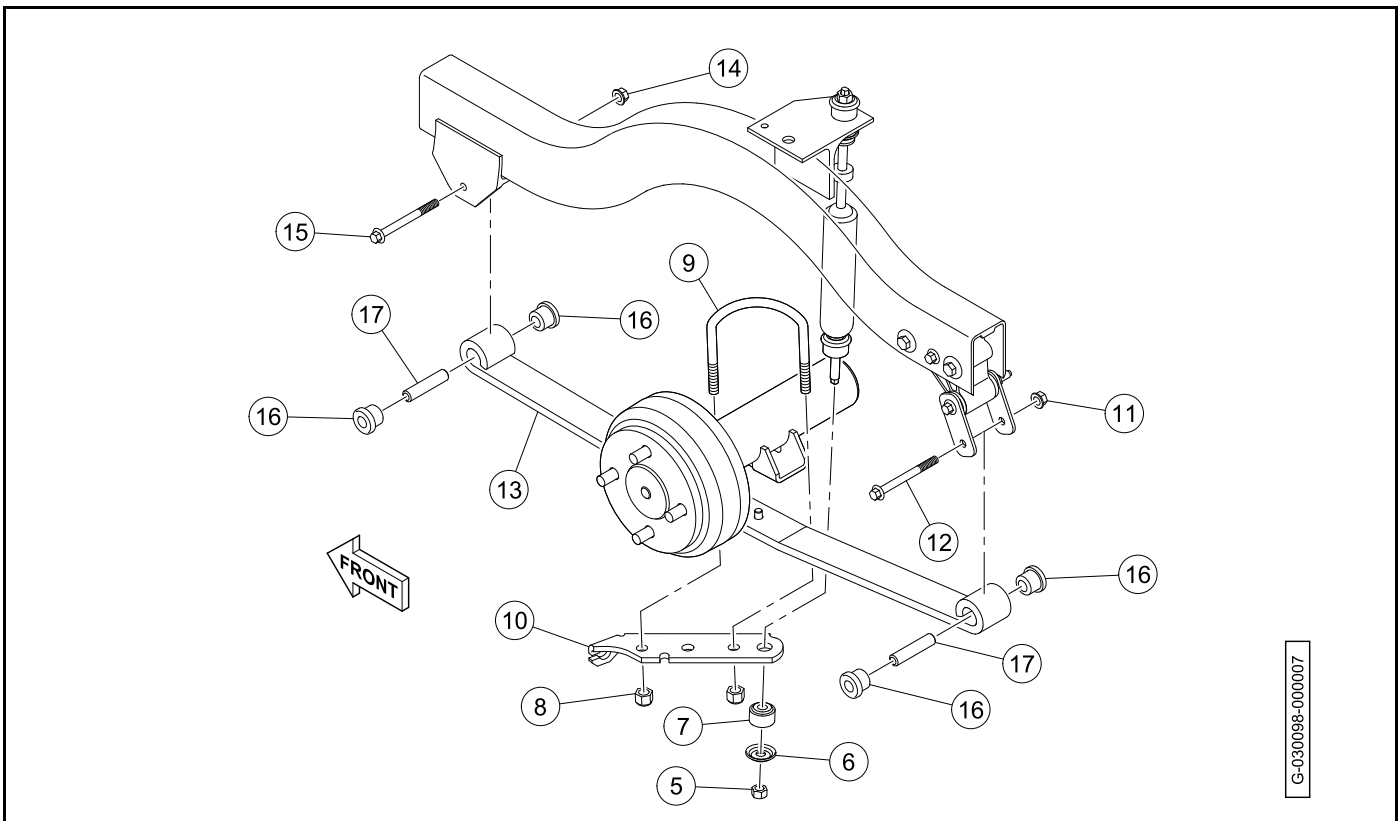

Figure 9-6 Leaf Spring Removal - Two-Passenger
7. Remove the cable end (3) from the brake lever.
8. Remove the brake cable from the shock mount bracket (4).
9. Remove the nut (5), cup washer (6), and rubber bushing (7) from the bottom stem of the shock absorber (Figure 9-6).